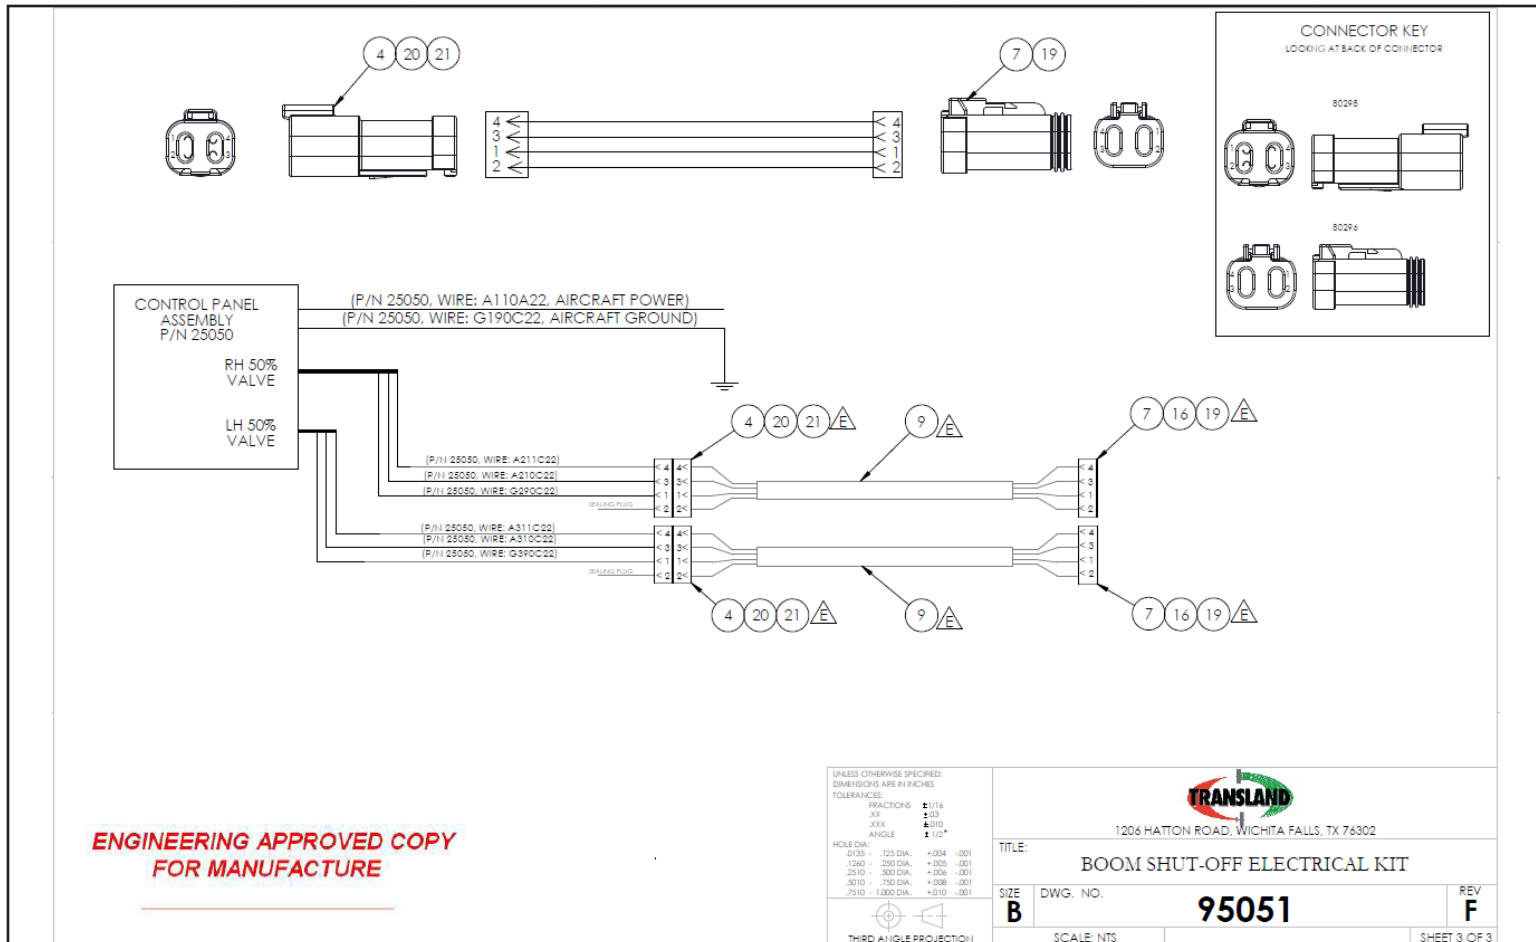

Figure 1-1: Wiring Schematic for Transland 50%/60% Boom Shut-Off Control Panel to Valves
6. Wire control panel to aircraft power and ground, using Figure 1-1.
18. Crimp pins and sockets to the correct wire ends as shown in Figure 1-1.
19. Plug item 13 into the partial boom shut-off valves.
20. Secure item 13 as necessary, using item 12 if needed.